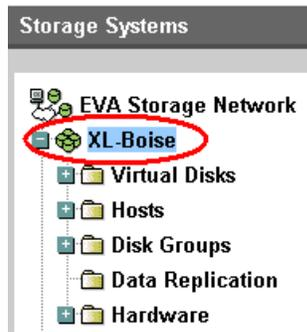

Figure 32 Selecting a storage system
1. Open HP Command View EVA and click the icon of the storage system you want to check (Figure 32).